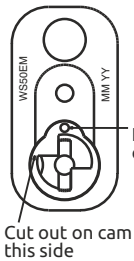

Fig. 2
5. Insert the Module screw (identified by the pink Coating on the thread) through the body and tighten to hold the module in place (Fig 2)